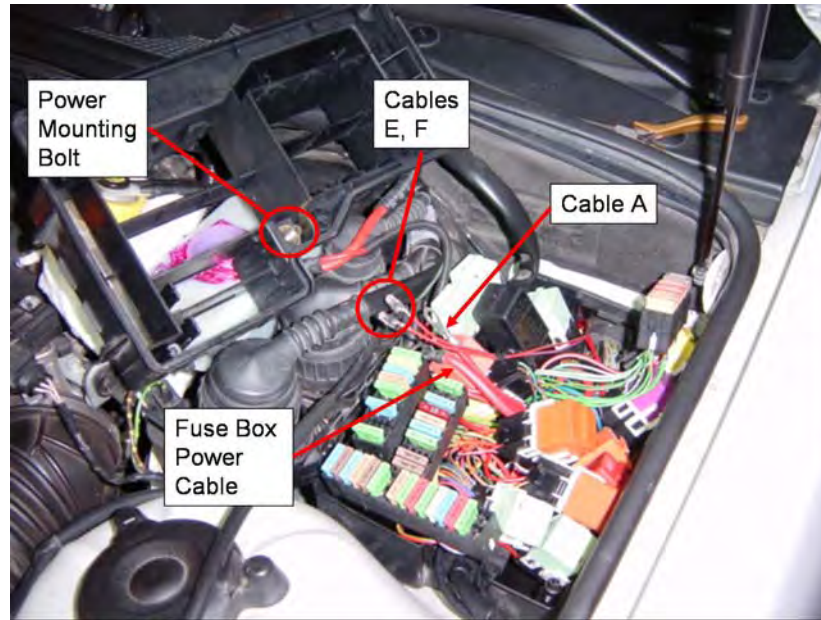
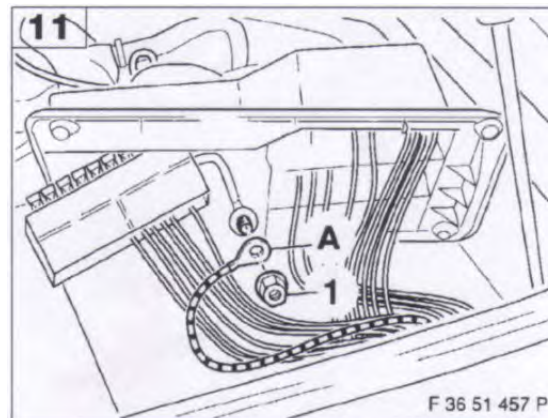

Figure 20 – Fuse box Connections
Figure 21 – Cable A Connection in Fuse Box
6.3.1 Route A through the firewall and into the Fuse box as shown in Figure 20 and Figure 21. Connect Cable-A ring terminal to power mounting bolt on fuse box cover using existing nut. I did all final connections after routing all portions of the harness to their proper locations.